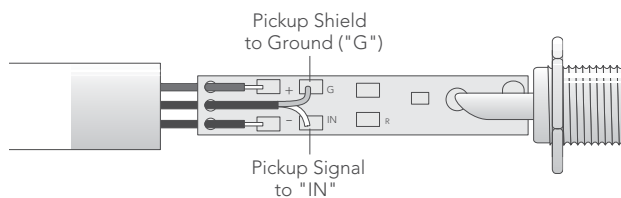

Figure 1
4. Thread the pickup wire through the largest of the three strain relief holes, then solder the signal wire from the pickup (hot wire) to the pad marked "IN" on the preamp circuit board. Solder the ground wire from the pickup (shield) to the adjacent pad marked "G" on the preamp circuit board (figure 1).